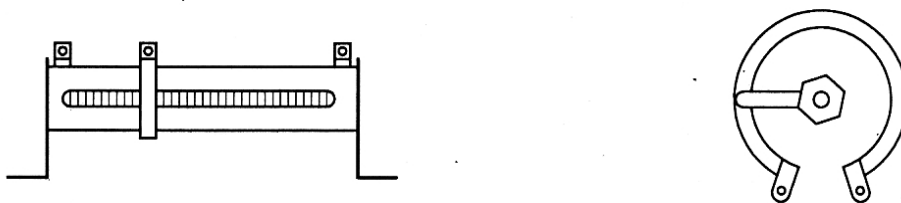

Figure 5 - Two common shapes of variable resistor.
14. Most types of variable resistor have one of the two general shapes illustrated in Figure 5.